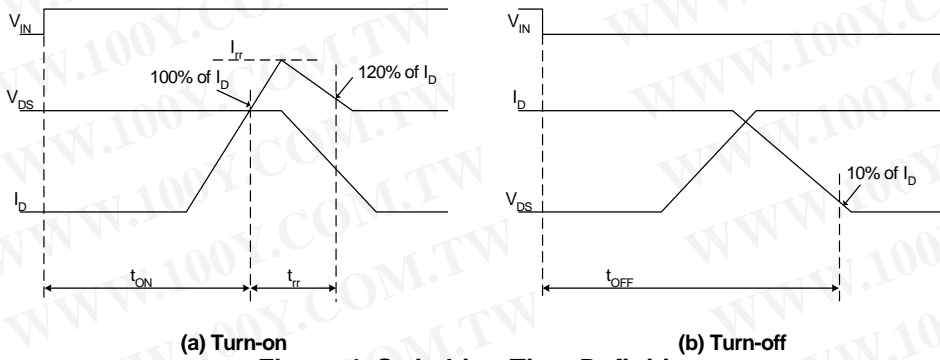
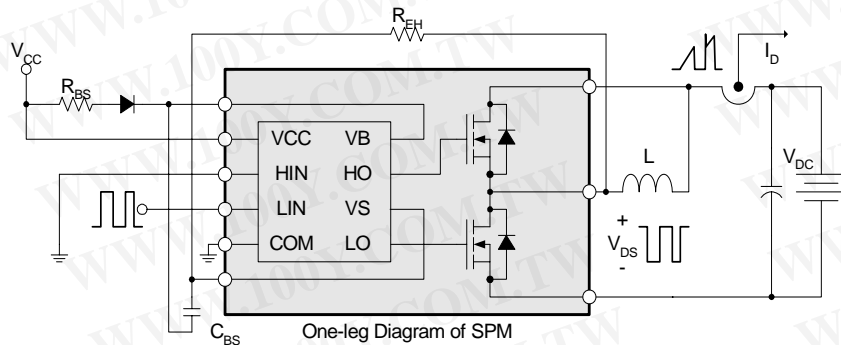

Figure 4. Switching Time Definition
Figure 5. Switching and RBSOA(Single-pulse) Test Circuit (Low-side)
- tON and tOFF include the propagation delay time of the internal drive IC. Listed values are measured at the laboratory test condition, and they can be different according to the field applications due to the effect of different printed circuit boards and wirings. Please see Figure 4 for the switching time definition with the switching test circuit of Figure 5.
- The peak current and voltage of each FRFET during the switching operation should be included in the safe operating area (SOA). Please see Figure 5 for the RBSOA test circuit that is same as the switching test circuit.